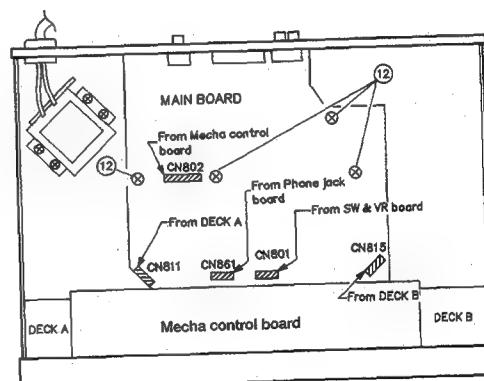

Fig. 2-3
b) Main board ass'y side (Fig. 2-3)